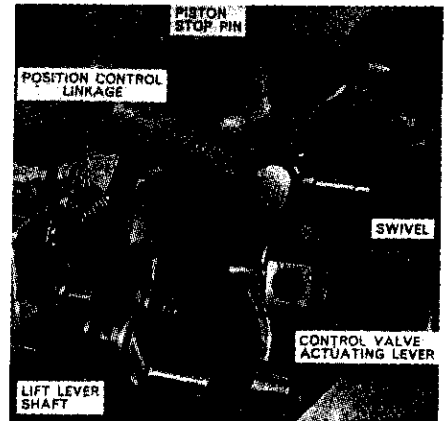
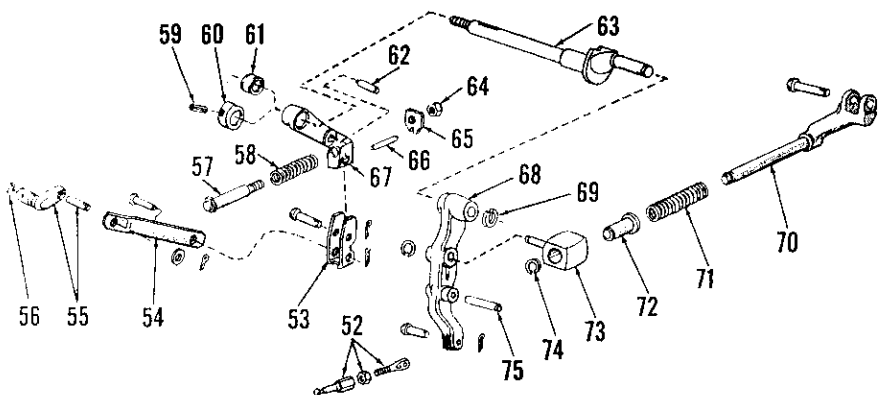

Fig. 407—Removing actuating arm assembly from lift control lever shaft.
Fig. 406—Exploded view of hydraulic system control linkage. Spacer (61) is used on model 2000; cam (60) is used on models 3000 and 4000.
Remove the snap ring (69—Fig. 406) and remove the actuating lever (68) and swivel assembly as shown in Fig. 407. Unbolt and remove the quadrant (retainer) (16—Fig. 401) from support (17) (early models), then remove the control lever retaining nut (11), spring washer (12), flat washer (13), lever (14), Woodruff key (18) (early models) and the friction disc (15). Unbolt the control lever shaft support (17) from
lift cover and slide the support from shaft. Remove the cotter pin and flat washer that retain link (54—Fig. 406) to selector lever shaft (55), then remove the control lever shaft and position control linkage as shown in Fig. 409.
On models 3000 and 4000, drive the roll pin (59—Fig. 406) from cam (60) and control lever shaft, then remove the cam and position control lever (67) from shaft. On model 2000, remove the spacer (61) and position control lever from shaft. Drive the roll pin (21—Fig. 401) from selector lever (22), remove lever from shaft (55—Fig. 406), then remove shaft and "O" ring (56) from lift cover.
Need and procedure for further disassembly will be evident on inspection of removed parts and with reference shown in exploded view in Fig. 406. To reassemble and reinstall, reverse the removal and disassembly procedure. Tighten control lever shaft support retaining cap screws to a torque of 35-47 Ft.-Lbs. Be sure that control lever is a free sliding fit over shaft and Woodruff key on early models, then install flat washer, spring washer and retaining nut; on model 2000, tighten retaining nut so that a force of 4 to 5 pounds is required to move control lever and on models 3000 and 4000, tighten nut so that 8 to 10 pounds force is required. Tighten lift arm to lift shaft retaining cap screws equally and so that all end play is removed, but